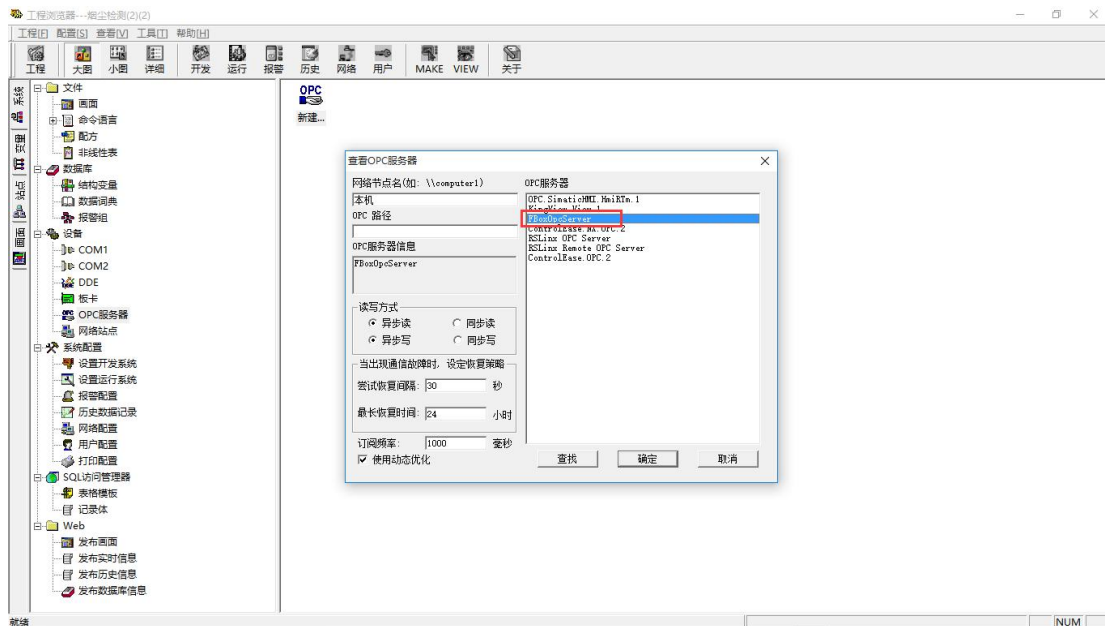

Fig 4.10-7 Add OPC driver
(1) Open the configuration software "KingView" and create a new project.
(2) Select the "OPC server" option in the "Device" subfolder of the project tree, and double click the "New" icon on the right window. The "View OPC server" dialog will pop up. In this dialog, select the "FBoxOpcServer" option in the list of the "OPC server" and click the "OK" button, as shown in Fig. 4.10-7.